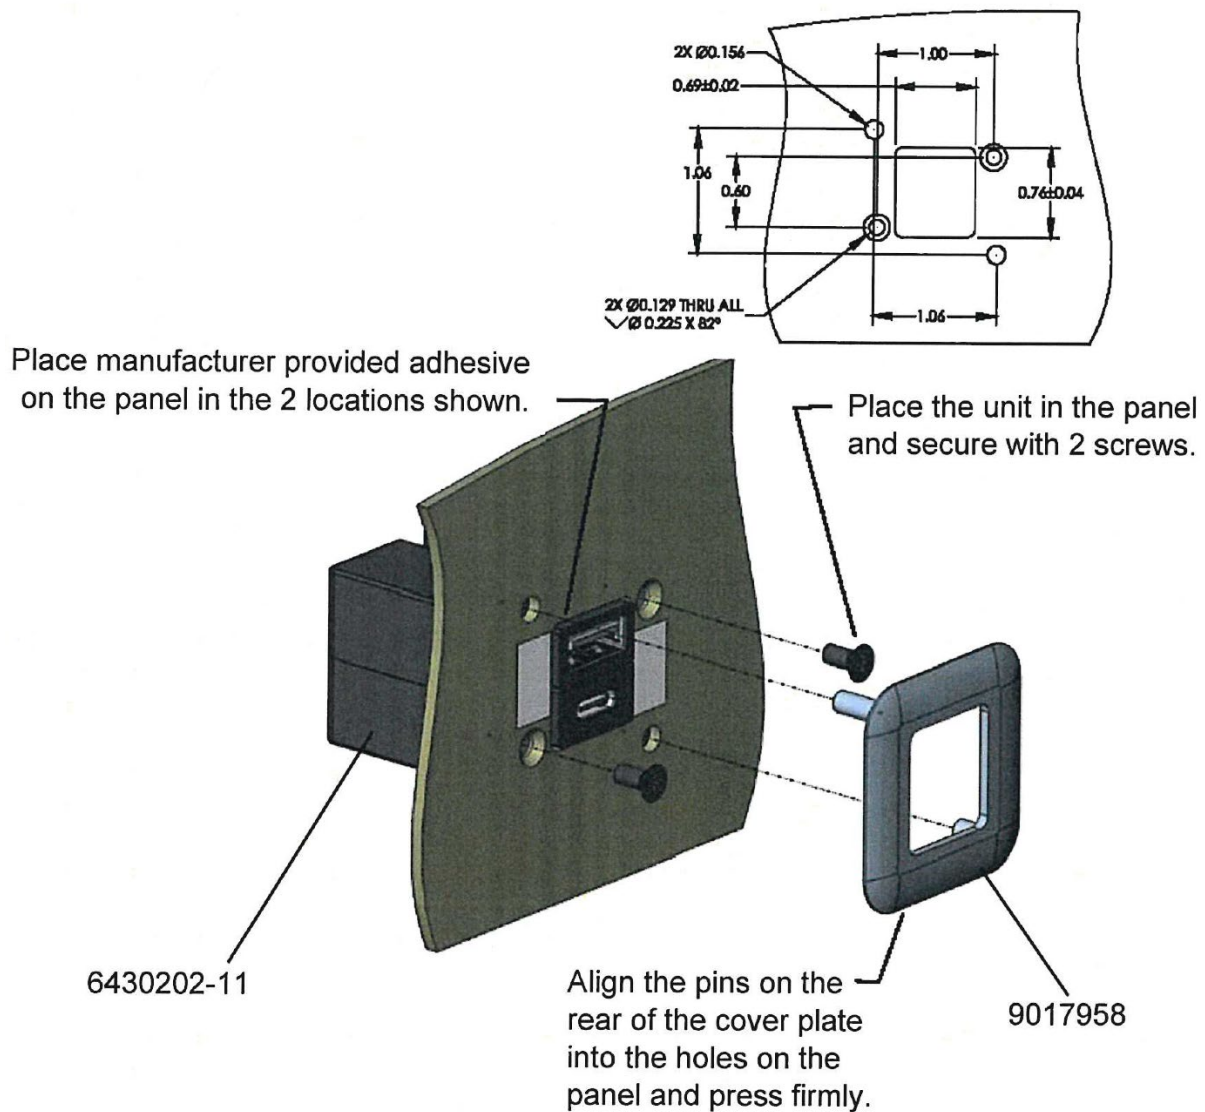

Figure 4 - USB Charger and Faceplate Installation
2. Install USB chargers into the Dzus blanking panel, as shown in Figure 4.
2. Install the USB chargers into the cover plates, as shown in Figure 4.
- a. Modify the cover plate shown in Figure 4. Centre the USB cut out on the cover plate.
- d. Modify the cover plate as shown in Figure 4. Centre the USB cut out on the cover plate.
3. Install the USB chargers into the cover plates, as shown in Figure 4.